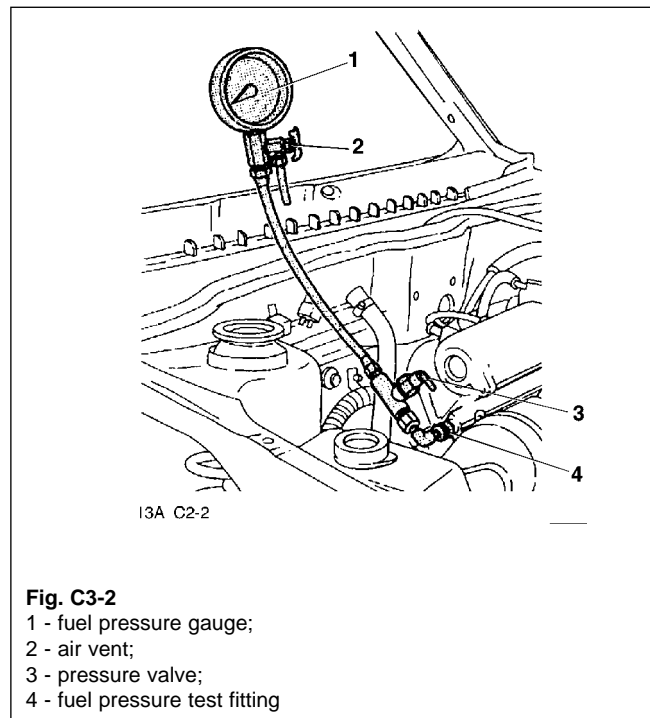

Fig. C3-2
- B. Connect pressure gauge to the fuel pressure test fitting (Fig. C3-2), wrap a shop towel around the connection to avoid fuel spillage.